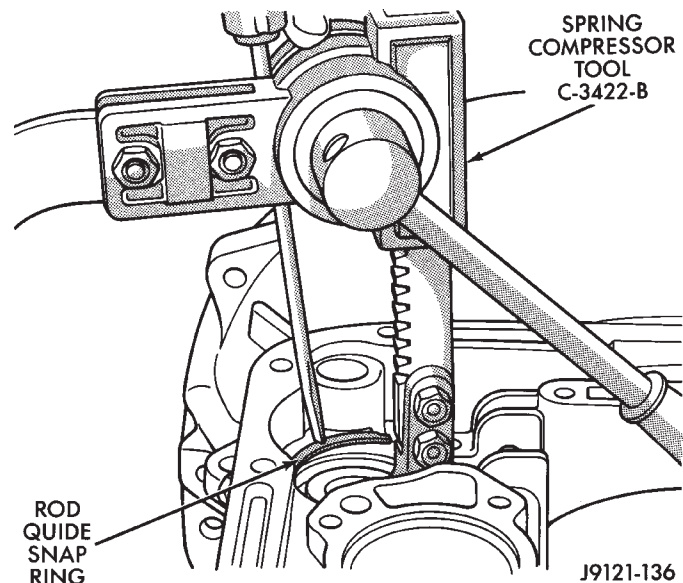

Fig. 141 Compressing Front/Rear Servo Springs side. Be sure this side of cam faces rearward (toward piston retainer).
(3) Compress front/rear servo springs with Valve Spring Compressor C-3422-B and install each servo snap ring (Fig. 141).